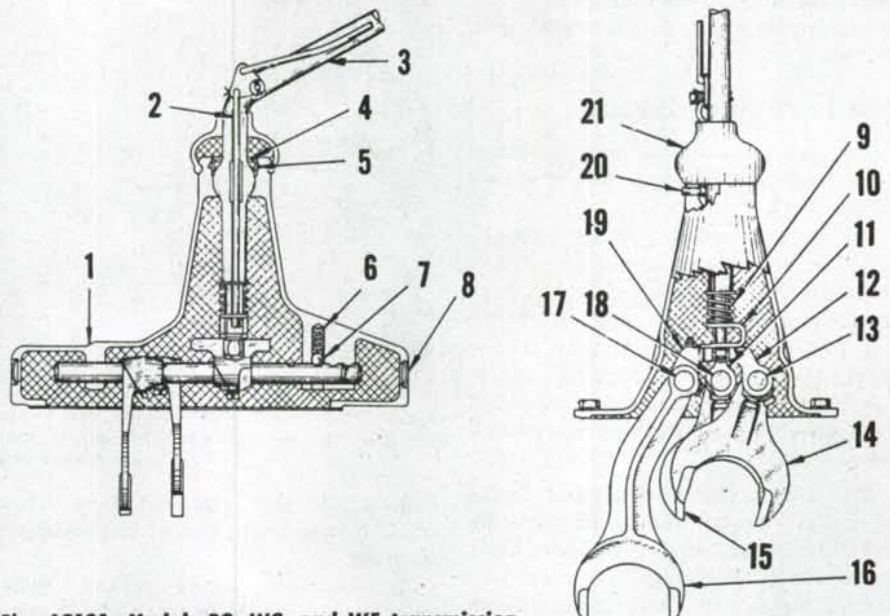

Fig. AC101—Models RC, WC, and WF transmission control and cover assembly—side and rear views.
225. SHIFTER RODS AND FORKS can be disassembled after removing transmission cover. Turn up lip of gear shift lever dust cap and remove snap ring (4—Fig. AC101), washer (5), and gear shift lever. Loosen shifter fork screws and lug screws and drive expansion plugs out of front of cover. Push shifter rods (13, 17, and 18) out through front of cover and remove forks from bottom of cover being careful not to lose detent balls (7) and springs (6) from holes in cover and interlock plugs (22) and pin (23) from center shifter rod.